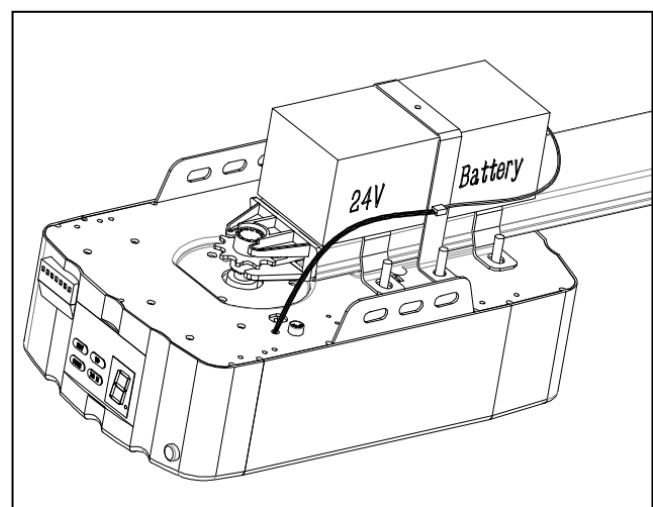

Figure 20
STEP2(Fig.20)
Join the battery to opener, find the Fig.20.